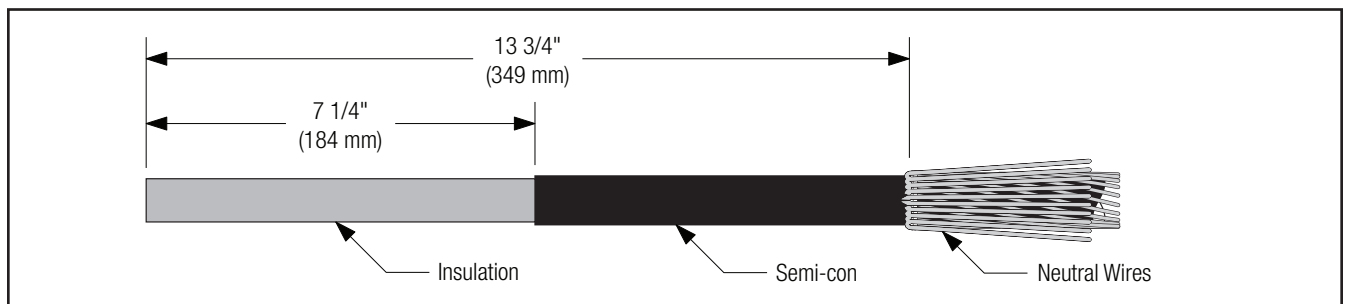

Figure 5
2.3.1 Prepare cables according to standard procedures. Refer to template provided or illustration below for proper dimensions (*Figure 5*). **Do not cut neutral wires on CN cables.**